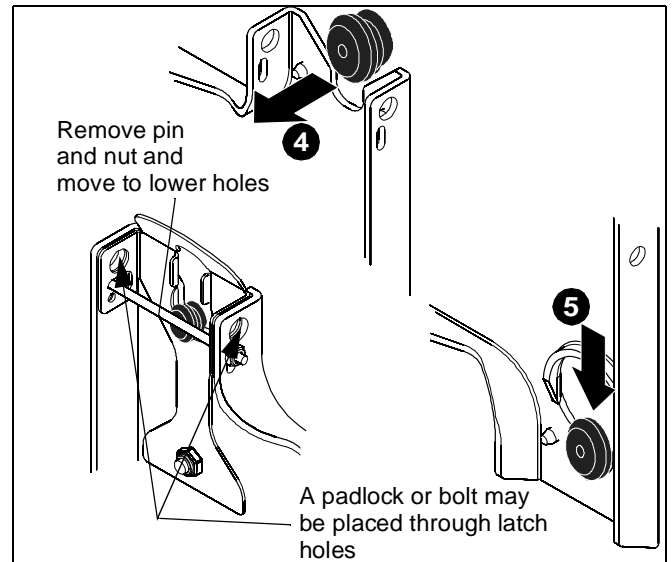

Figure 7
- NOTE:** Holes are provided in the faceplate for use with a padlock or similar locking device, if desired. In addition, the pin and nut may be removed from the upper holes and moved to the lower holes for use as a more permanent locking device. (See Figure 7)